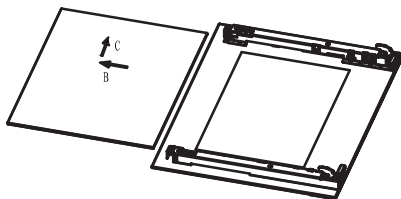

Fig. 4.
4. Take out middle glass. (Fig.4)